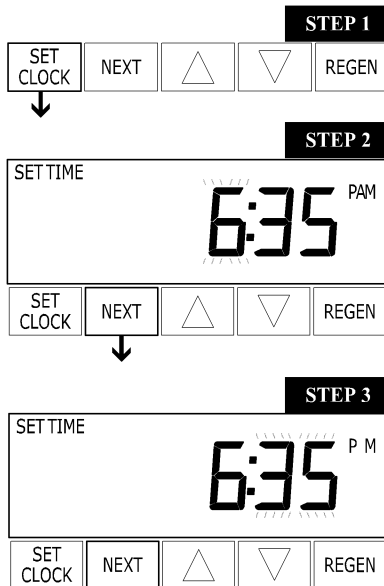

Figure 8
5. Set the time of day (figure 8, ).